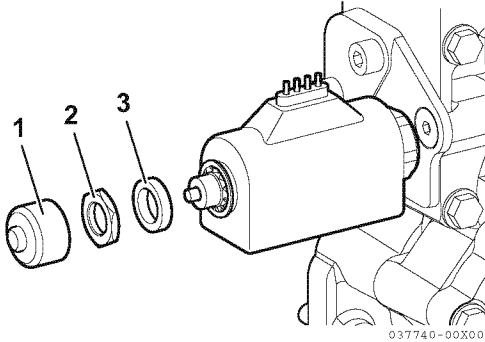

Figur 10
- Normal drift (1, Figur 10)
- Nøddrift (2, Figur 10)